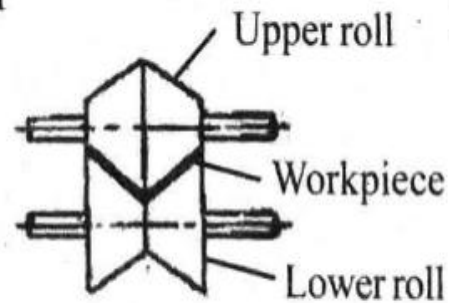

Fig. 2.13 Roll Forming
- Another type of roll forming is shown in fig. 2.13. While designing dies and punches spring back of metals in bending should be considered.